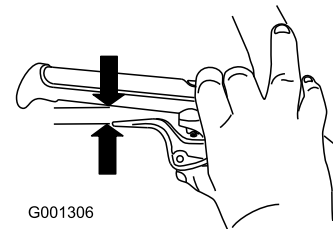

Figure 9
5. Squeeze the lever fully, then check the gap between the bottom of the handle and the wheel clutch lever end (Figure 9).